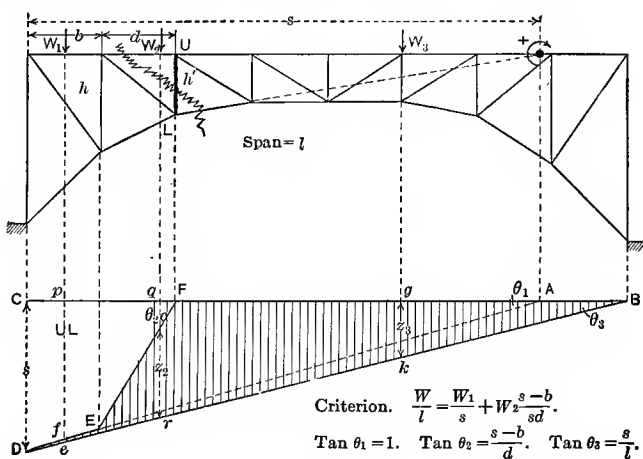

FIG. 19.
**Vertical of Simple Truss Having Center of Moments between the Supports.**—The vertical member  $UL$ , Fig. 19, has its center of moments between the supports. The moment influence diagram is constructed according to the general rule and is the shaded area in Fig. 19. This diagram